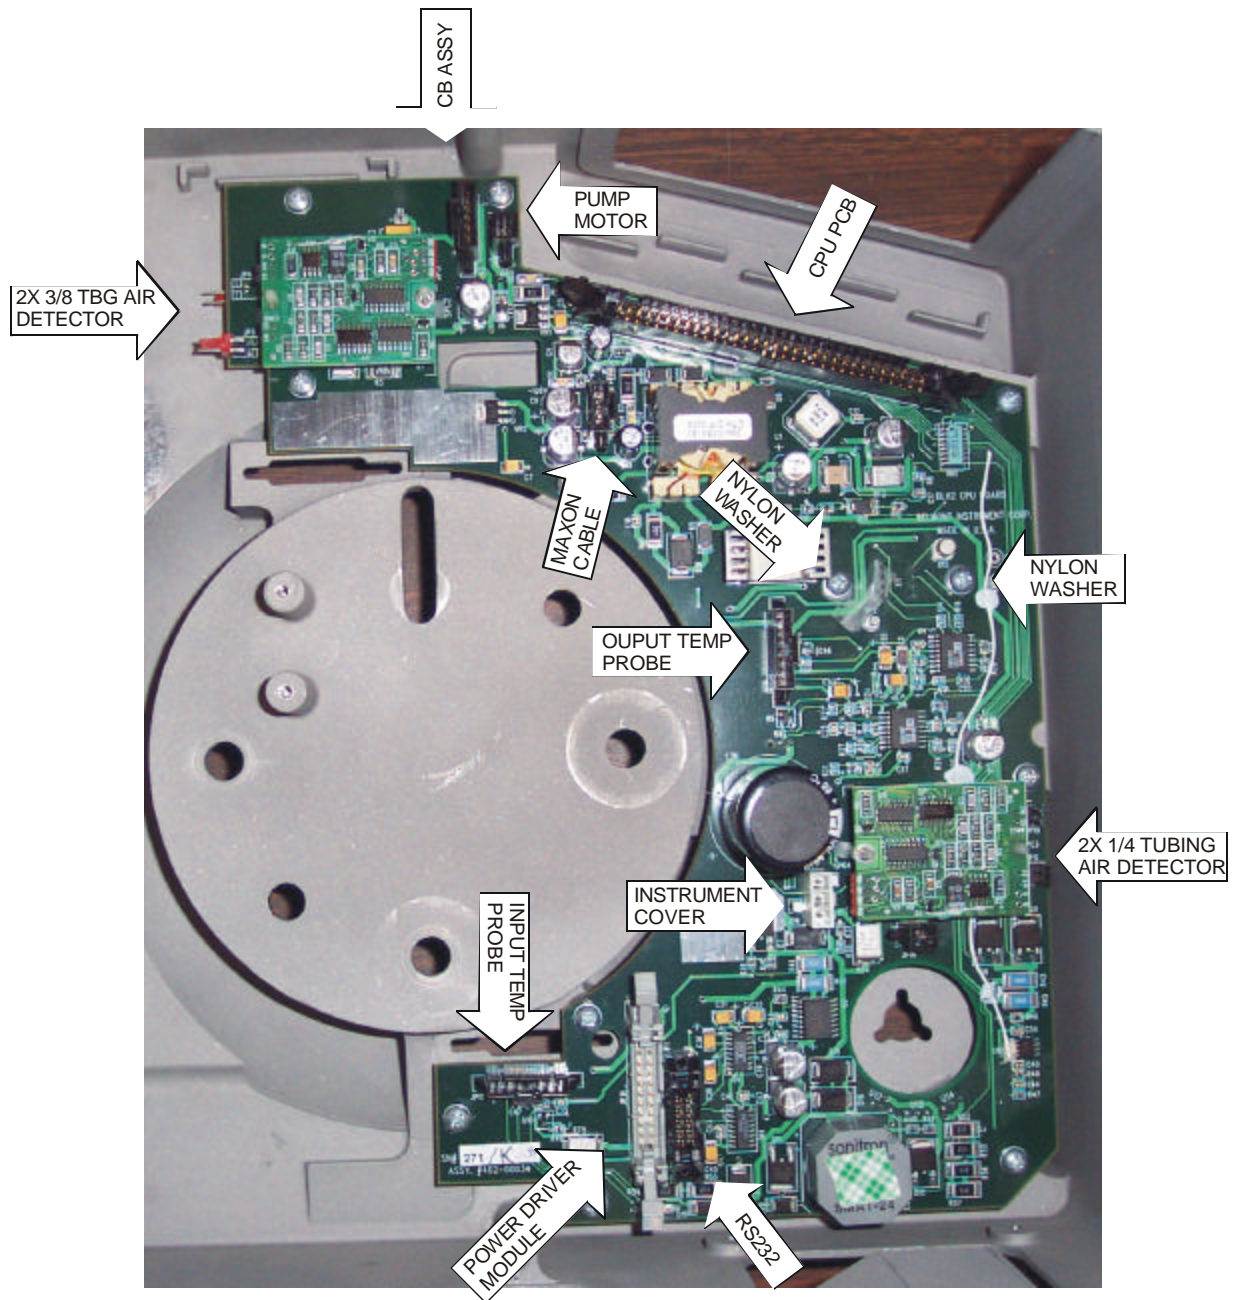

Figure 5: Daughter PCB
5. Reinstall 12X pan head Phillips screws & 2X nylon washers. Figure 5.
6. Reattach all cables connected to Daughter PCB. Figure 5.